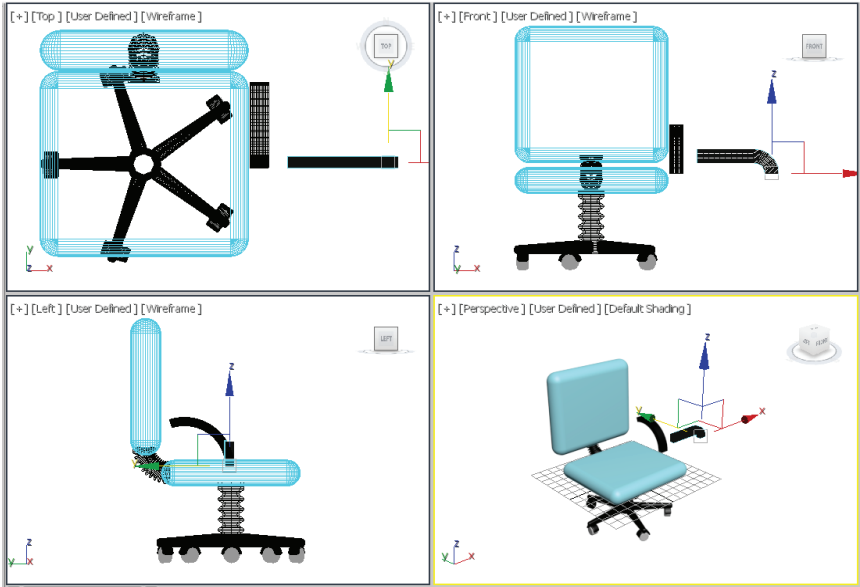

Figure 3-50 The right hand support002 geometry after modifying the values of the **Bend** modifier
11. After entering the values, *right hand support002* is modified, as shown in Figure 3-50.